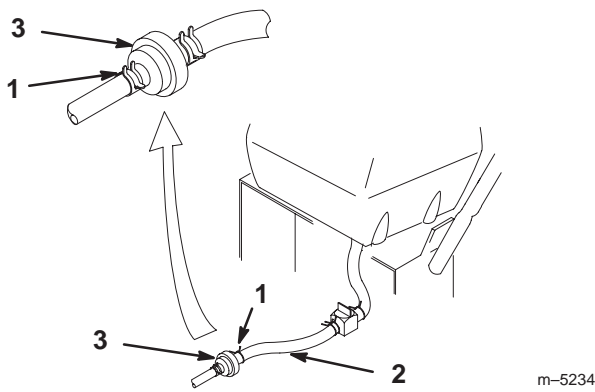

Figure 43
4. Squeeze the ends of the hose clamps together and slide them away from the fuel filter (Fig. 43).